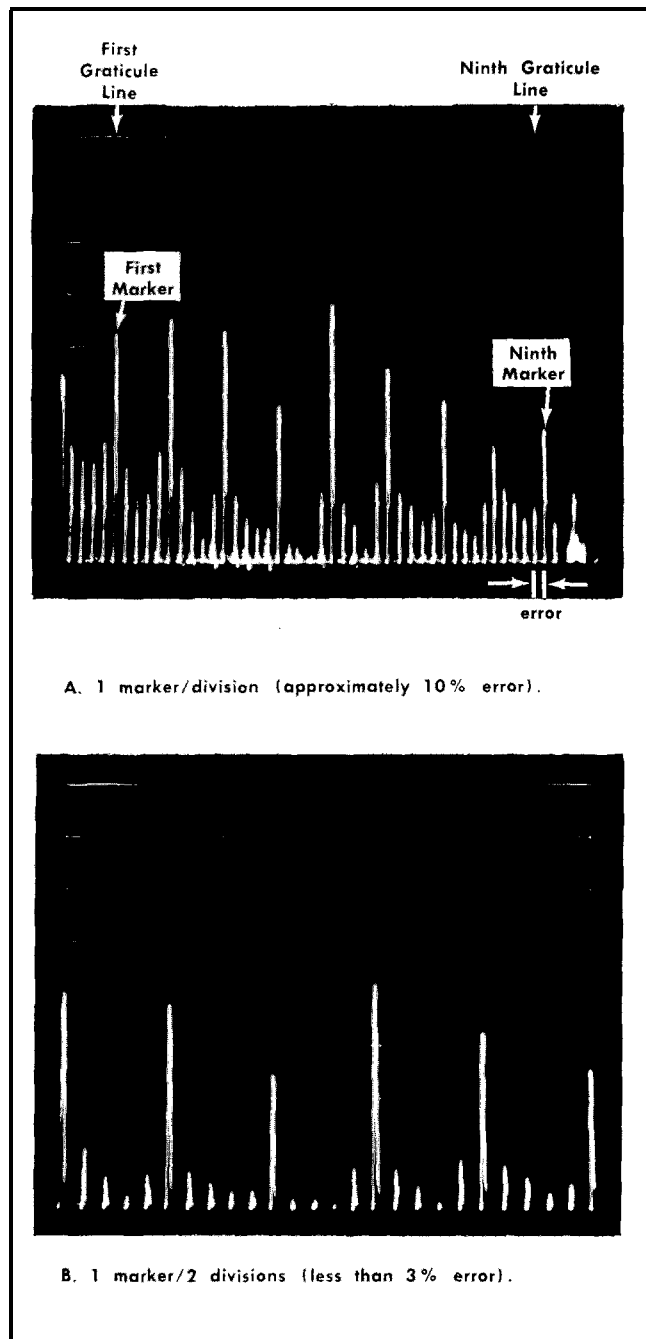

Fig. 5-2. Measuring dispersion accuracy.
a. Requirement-Dispersion accuracy for the MHz/DIV ranges is listed in Table 5-2. IF CENTER FREQ coarse control range should equal or exceed + and - 25 MHz from its centered (000) position. Dispersion accuracy and display linearity must remain within the listed specifications of Table 5-2 to the + and - 25 MHz positions of the control.
e. Check the dispersion accuracy and linearity for each MHz/DIV setting of the DISPERSION selector as listed in Table 5-2. (See Figs. 5-2 and 5-3.) The Horizontal POSITION control or the IF CENTER FREQ control may be used to align the prime markers to the graticule divisions. As the DISPERSION is decreased, the RESOLUTION control should remain in the coupled position,